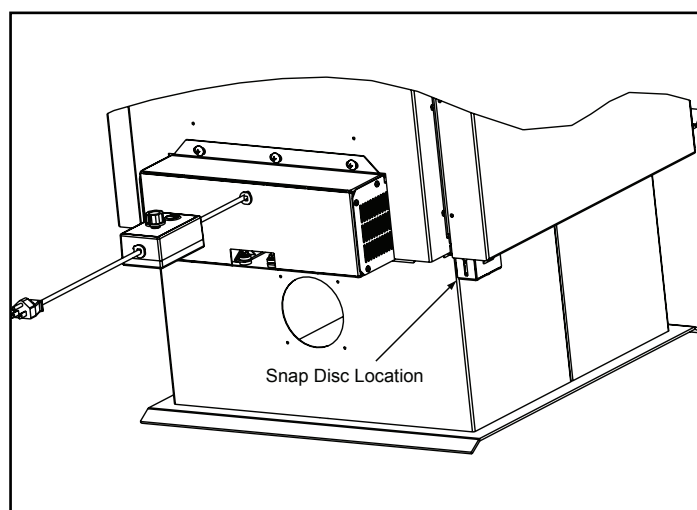

Figure 21.1
1. Disconnect power supply. Locate the snap disc bracket assembly at the bottom left rear corner of the appliance. **Figure 21.1.**